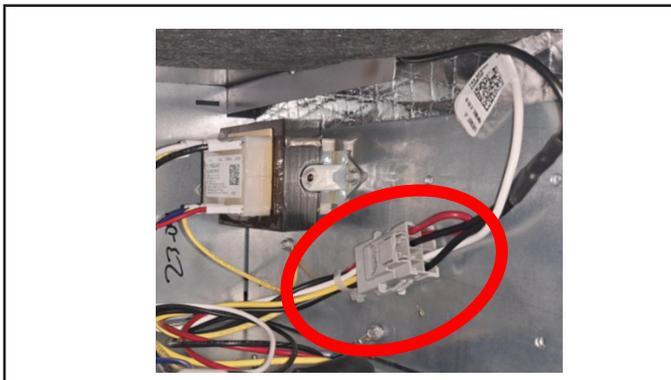

FIGURE 27. Converting Unit from 230VAC to 115VAC
- 3 - Plug the 115V power wiring harness with the gray male jack plug (found in the bag assembly) with the black and white pig tail leads. See FIGURE 27.